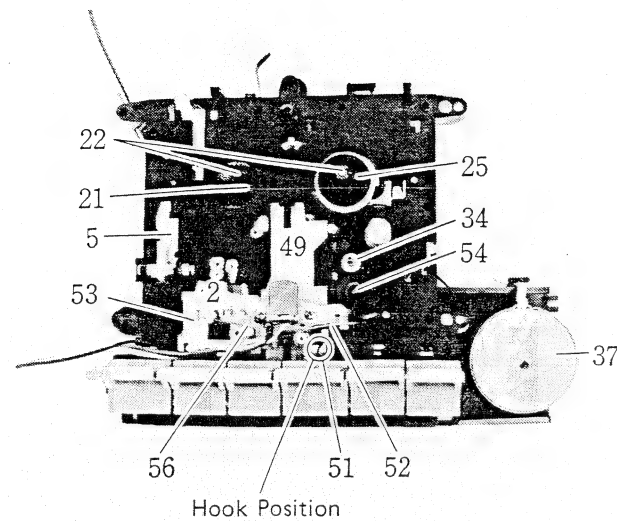

Figure 24.
1. Remove 51 and 52. Pull 49 toward you. Set the section of 49 to projection of chassis, then pull them upward to detach 49 and 54 at the same time. (Fig. 24)